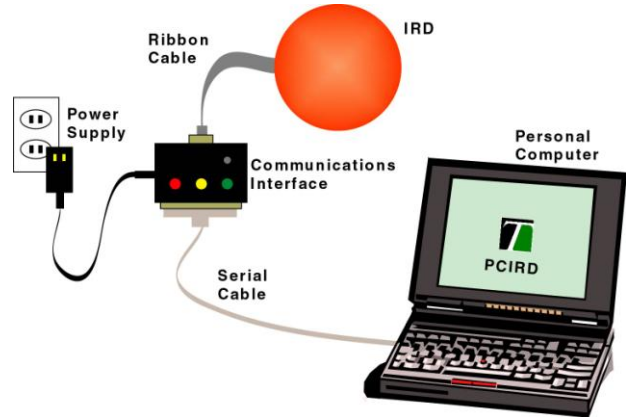

Figure 1. Connection diagram
1. The IRD contains rechargeable NiMH battery cells. Power is supplied to the system with the included external 12V power supply. Do not substitute another power supply as damage may result. Assemble the components as in Figure 1.